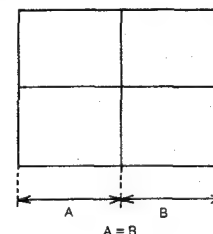

Fig. 2-3
- (1) Receive a PAL center cross signal.
- (2) Adjust SFR302 so the condition shown in Figure 2-3 is obtained.